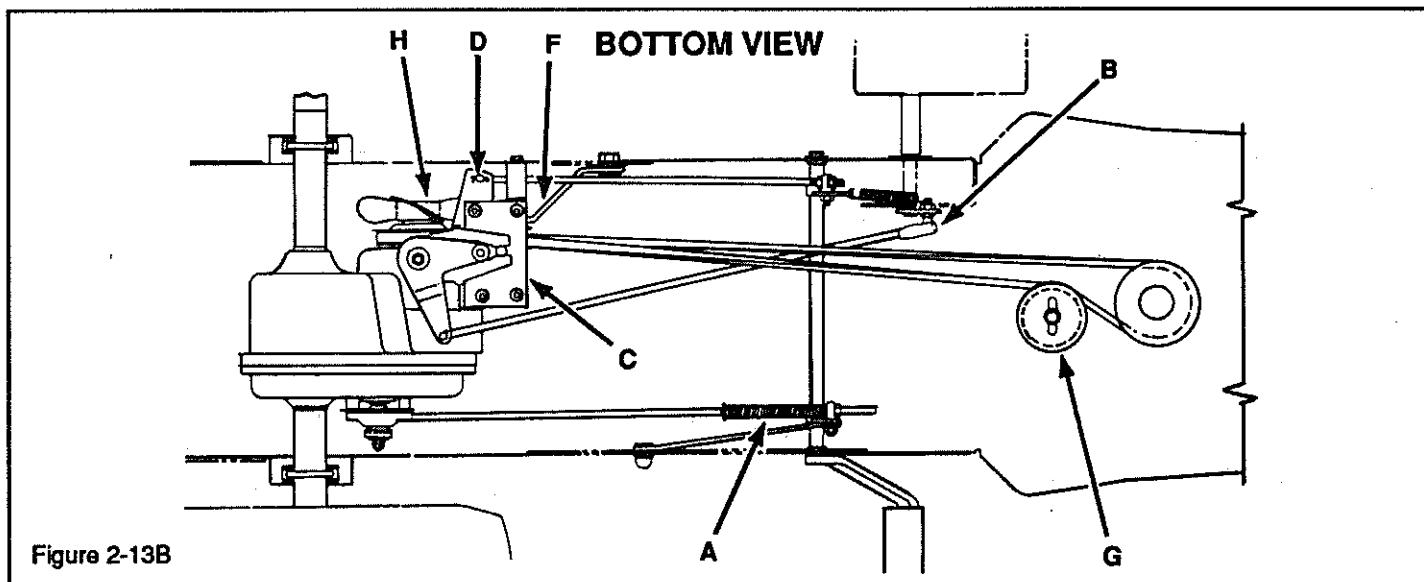

Figure 2-13B
- b. Remove hydrostatic fan (H, Figure 2-13B).
- c. Position belt onto pulleys as shown in Figures 2-13B. Secure electric clutch locating rod (A, Figure 2-13C) into electric clutch.
- d. Secure hydrostatic fan (H, Figure 2-13B) into place.
- e. Secure adjustable idler (G) in place. Spring loaded idler arm (F) should be parallel to bottom of frame with idler (G) secured.